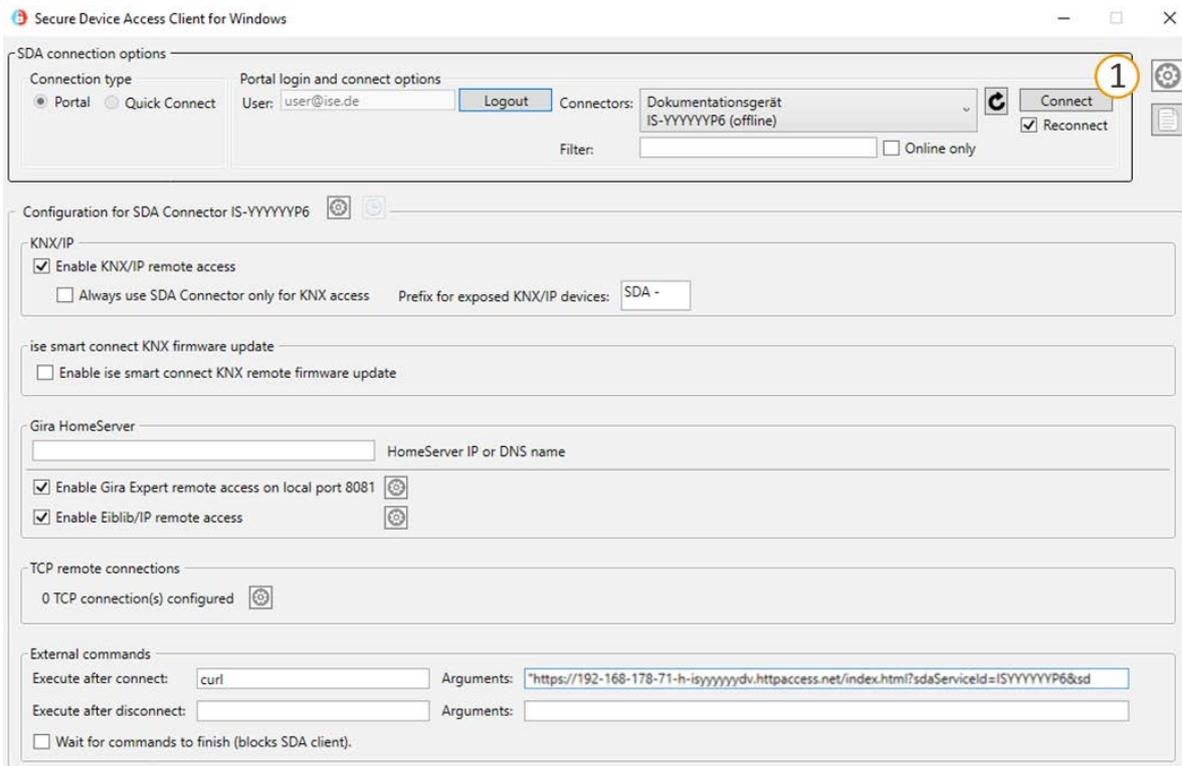

Figure 12: SDA client – Open the general settings
To open the general settings, use the button "gear" (top right, see "Figure 12: SDA client", (1)).